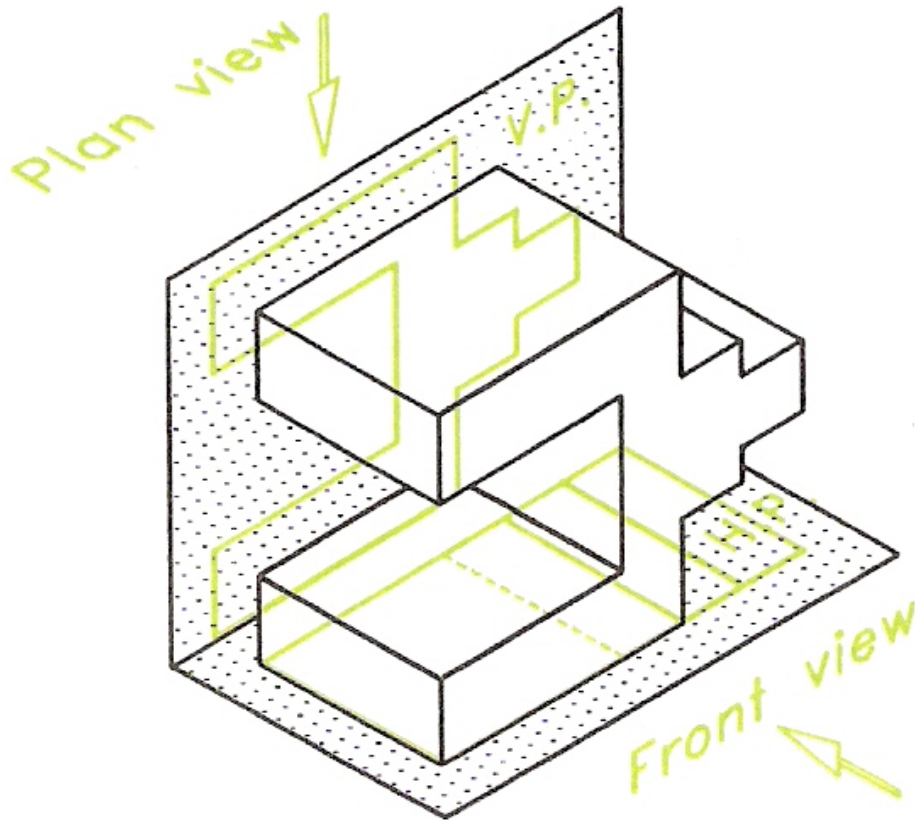
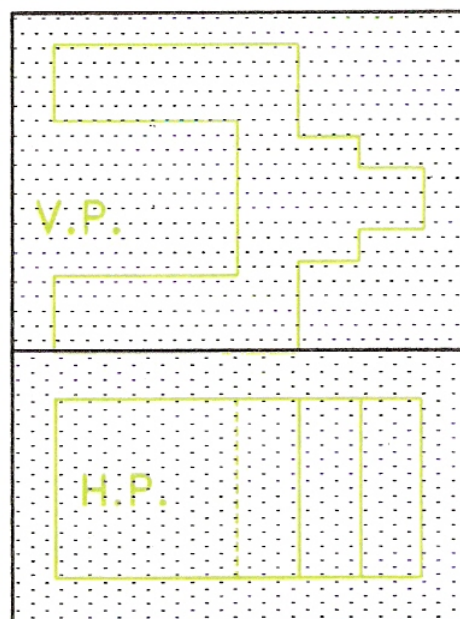

Figure 2 - Object Placed between the V.P. and the H.P.
Figure 4 - Front View and Plan in First Angle Orthographic Projection
Figure 2 to Figure 4 describe the theory of First angle projection.
1. The object to be drawn is placed on the H.P. in the First angle - Figure 2.
4. The H.P. is rotated through 90 degrees to lie in line with the V.P. This gives a Front View and Plan of the object in First angle projection - Figure 4.